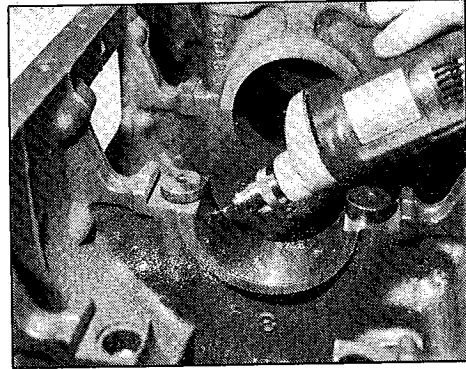

FIG. 2 DRILLING RIVET HOLES
7. Drill the saddle seat through the predrilled holes in the repair bushing until chuck jaws make contact on the bushing. (Fig. 2).